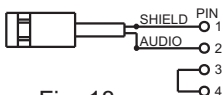

Fig. 18
1. 2-wire electret condenser microphone capsule connection, Fig. 18: